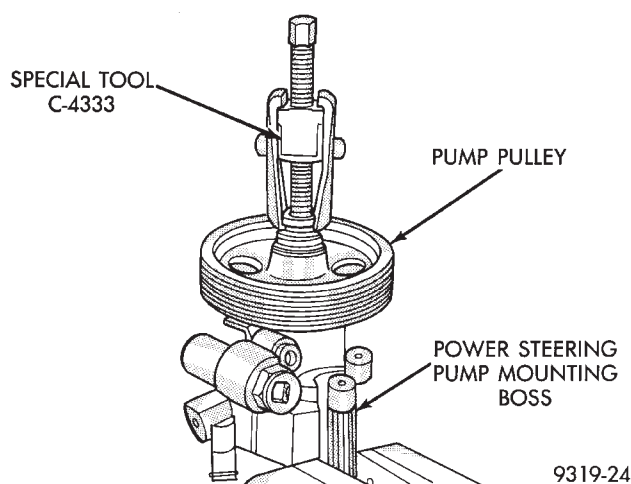

Fig. 37 Removing Power Steering Pump Pulley
(2) Remove the power steering pump pulley from the power steering pump shaft using Puller, Special Tool C-4333 (Fig. 37).